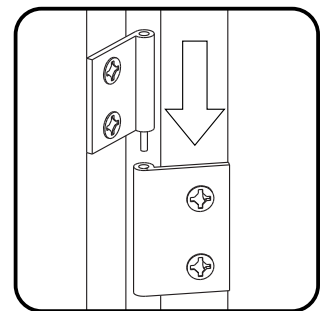

Figure 7
Attach Door (N) to unit by sliding door hinges into side panel hinges. (See Figure 7)